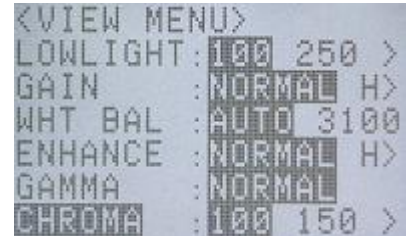

Figure 3-59 CHROMA(VIEW MENU)
- 2) Use the arrows   to select "CHROMA" from the VIEW MENU. (Figure 3-59)